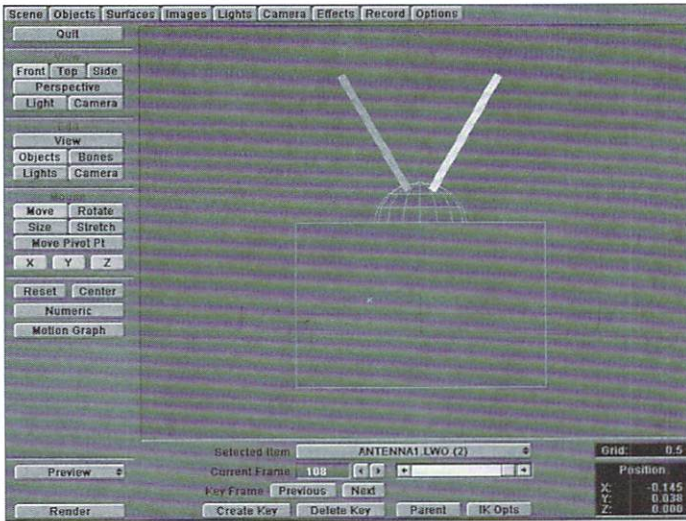

Figure 15: Cloning a second antenna object.
- You've just completed one antenna on the television set. To duplicate this process for the other antenna, simply clone Antenna1.lwo from the Objects panel, rotate its heading 180 degrees and move it into position on the other side of the antenna base. Don't forget to keyframe it (Figure 15). Note that this cloned object also has Antenna2.lwo as its Metamorph Target. This works just fine, and there is no need to clutter up your scene file with a different copy of a metamorph target object.